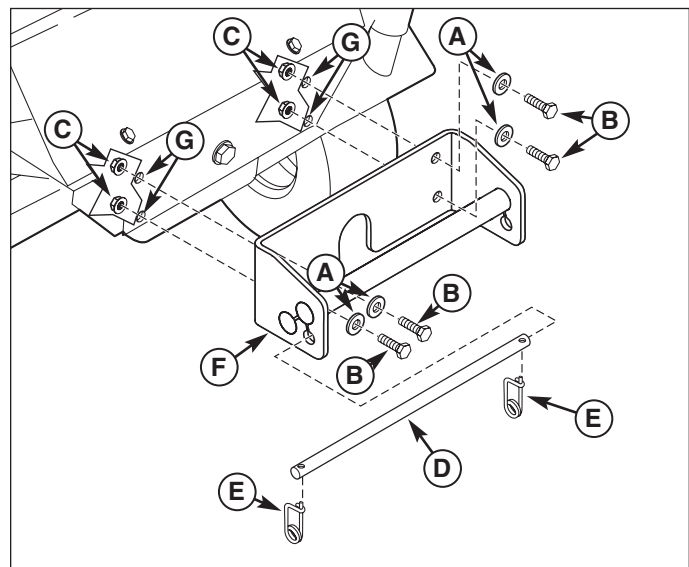

Figure 2. Front Weight Carrier Installation
1. Remove and discard hardware from holes (G, Figure 2).
2. Install carrier (F) as shown securing with 5/16-18 cap screws (B), 5/16 washers (A), and 5/16 locknuts (C).
3. Rod (D) and safety clip (E) are used to secure required weights.